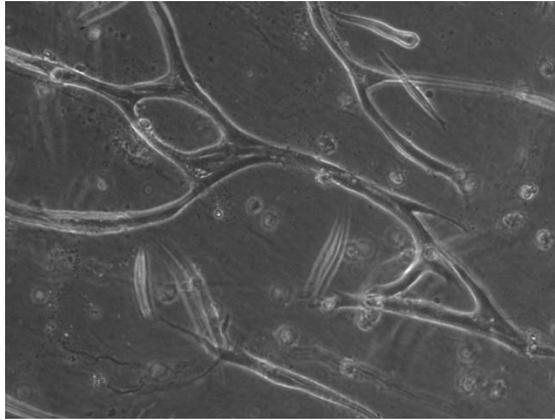

Figure 1. Day 5; phase contrast image of lumen-containing HUVEC tubule, 200x.
Angiogenesis is the formation of new blood vessels from preexisting vessels. As such, angiogenesis research is relevant in numerous contexts such as organ development, tissue repair, wound healing, and tumor progression. At its most basic, it is a complex multistep physiological process that involves cell survival, proliferation, migration, extracellular matrix degradation, altering cell-cell adhesion, cellular differentiation, network formation, lumen formation, and pruning. Due to the complexities, angiogenesis is difficult to study in a 2-dimensional *in vitro* system, which inherently lacks multiple aspects of the physiological angiogenic microenvironment. ScienCell™'s 3-dimensional Embedded Tubule Formation Kit (3D-ETF) is an inclusive kit that utilizes purified collagen type I to mimic all the intricacies of the angiogenic process more closely, including the lumen formation step (see Figure 1 at end of protocol). Gels can be fixed and stained for quantitative assessment.
- B16. Observe cells; assay typically peaks around day 6. See Figure 1 below for tubule formation.